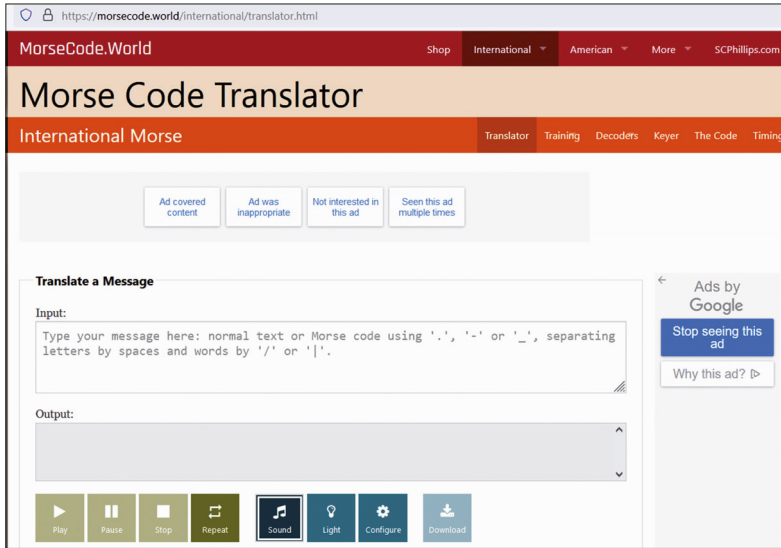

Figure 4.61: Morse code translator apps.
- Use a Morse code audio generator apps, e.g., *on your smartphone*. For example, the **Morse Code Translator** program, available on Internet (link: <https://morsecode.world/international/translator.html>) can be very helpful during testing (see Figure 4.61) using your Android smartphone.